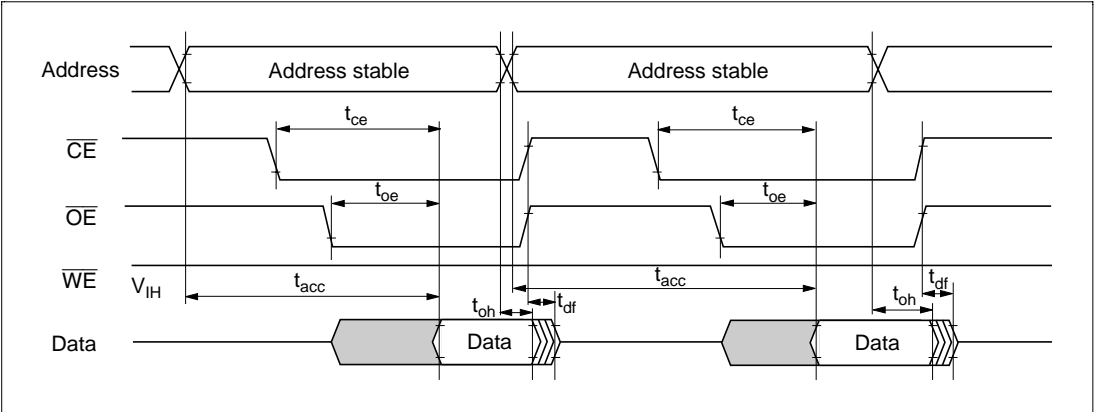

Figure 21.19 Timing Waveforms for $\overline{\text{CE}}$ and $\overline{\text{OE}}$ Clocked Read
4. Memory address transfer is performed in the second cycle (figure 21.19). Do not perform transfer after the second cycle.